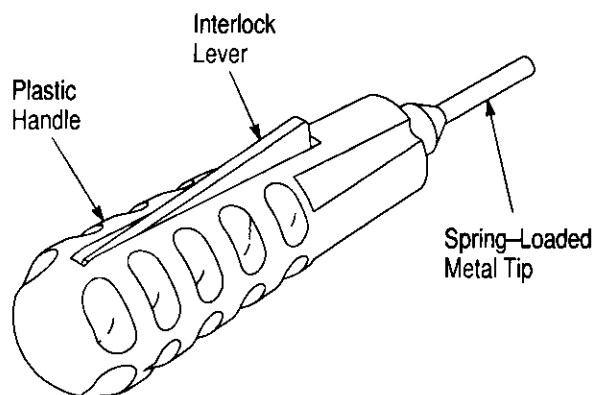

Figure 1
AMP* Extraction Tool 318813-1, shown in Figure 1, is designed to remove the AMP size 8 straight and right-angle coaxial contacts and AMPLIMITE* power contacts listed in Figure 2 from connector housings. Read these instructions thoroughly before attempting to remove any contacts.
2. DESCRIPTION (Figure 1)